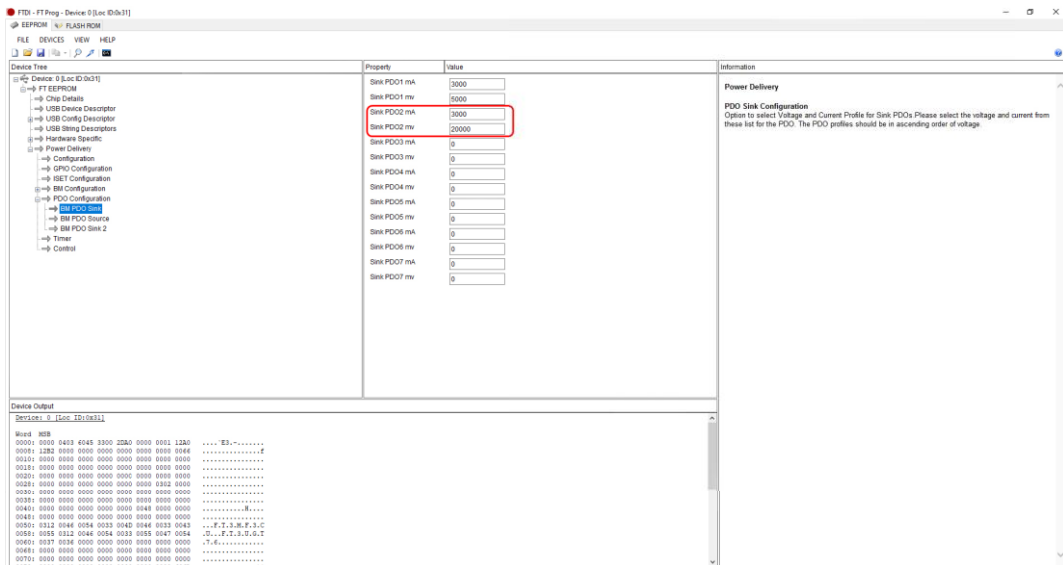

Figure 14 – Power Delivery Setting
- The last setting will effect output, for Figure 14, the power delivery will be 20V/3A.